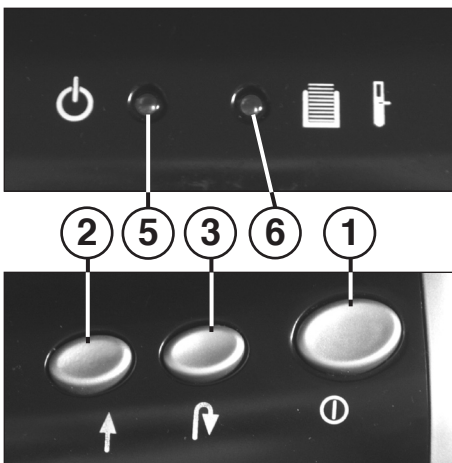

fig. 1
- 1 = **Pushbutton switch „ready“ (fig. 1)**
- 2 = **Pushbutton „Cutting system forward“ (fig. 1)**
- 3 = **Pushbutton „Cutting system reverse“ (fig. 1)**
- 5 = **Pilot lamp „ready“ (fig. 1)**
- 6 = **Pilot lamp (red / yellow) (fig. 1)**
Turn machine on with pushbutton switch (1) (fig. 1). Pilot lamp lights up (5) (fig. 1).
**The fill level of the collection tray (10) is not displayed by the control display!**
If the receptacle for paper is full, the machine switches off. A horn sounds. The control display (6) (fig. 1) lights up (red).
- Pull the receptacle (9) with the collection tray (10) out of the lower housing.
- The horn stops. The control display (6) (fig. 1) goes out.
Please make sure that the shredder is switched off over night (pushbutton switch (1) (fig. 1)).